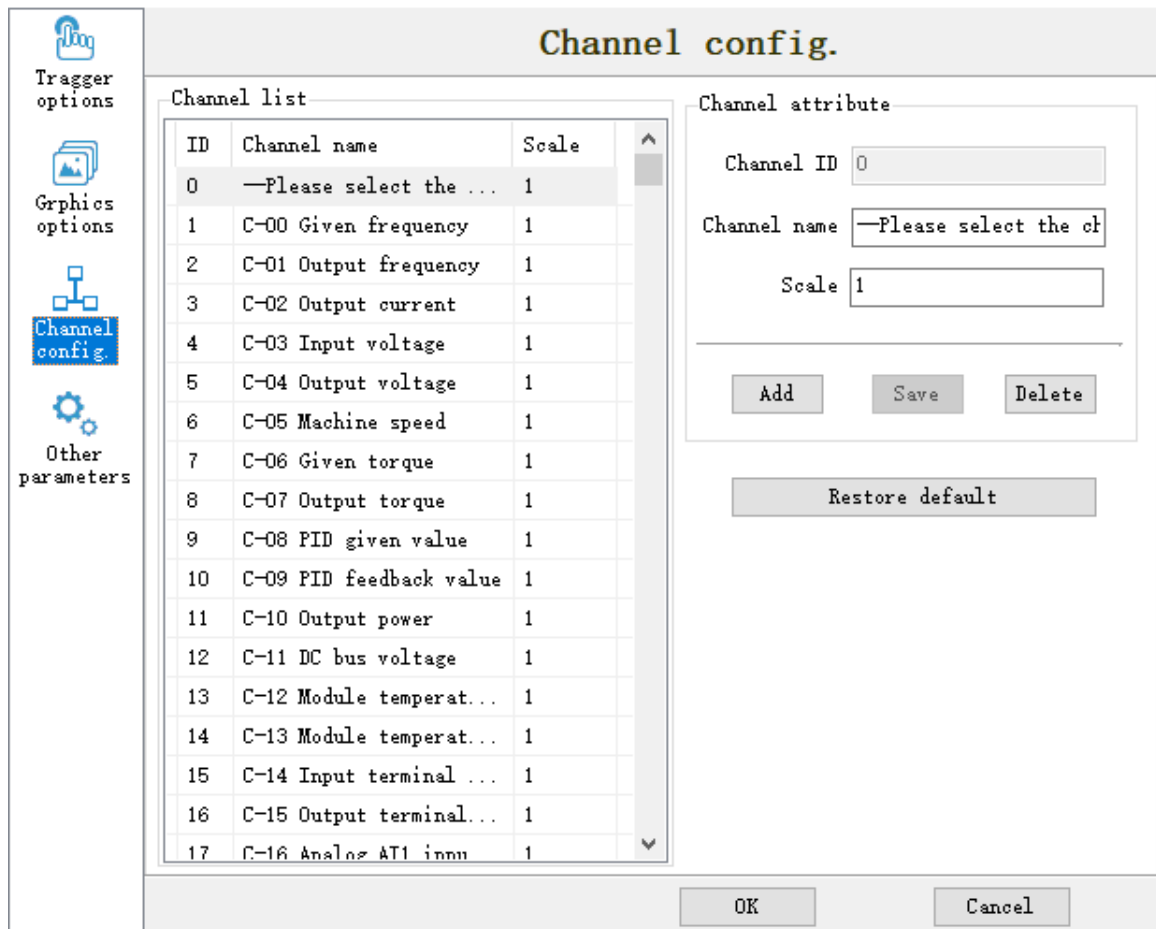

Figure 29
1. Click the icon  -> [Channel Configuration], switch to the channel configuration page, as shown in Figure 29 below: